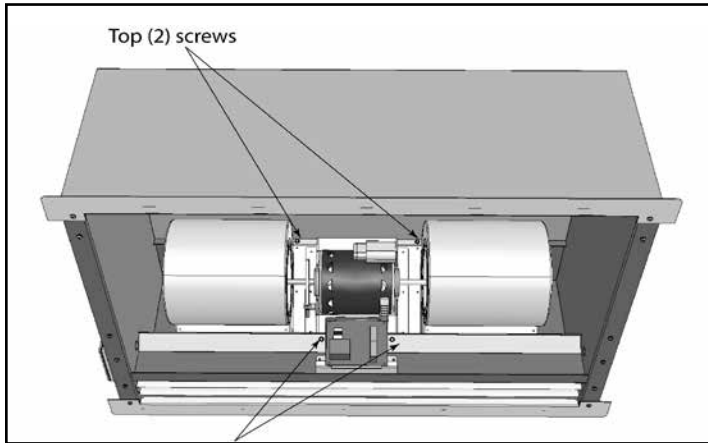

Figure 8
7. Using a 5/16" hex driver, loosen and remove the (4) self drilling screws that hold the blower plate to the frame of the unit. Remove the two screws at the top of the product last, as after they are removed, the module will be free to drop out of the cabinet. **See Figure 8** for location of all screws.